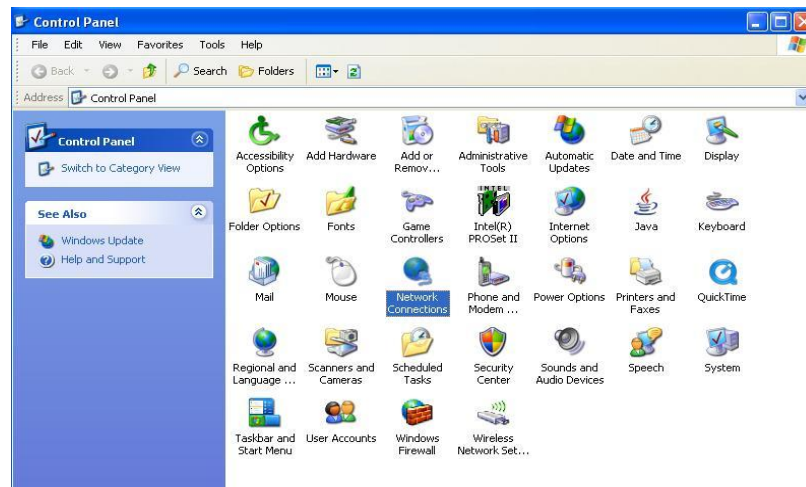

Figure B-3: Control Panel Classic View
3. Look at the left side of the *Control Panel* screen to ensure the system is in Classic View (Figure B-3) and not in Category View.